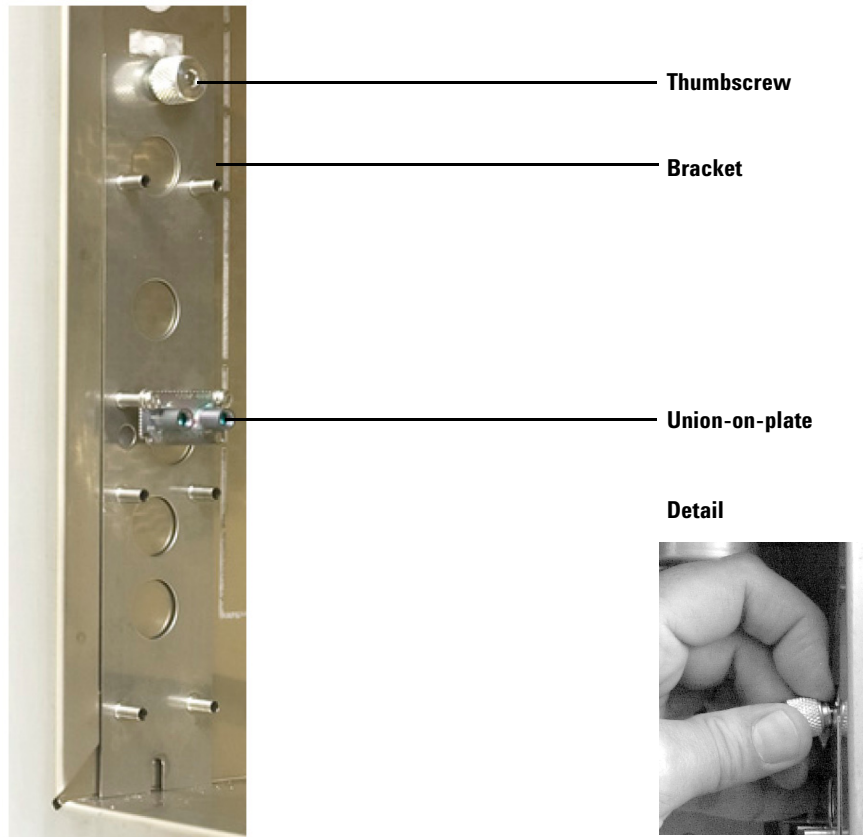

Figure 5 Installing the wall bracket and union-on-plate
- 2 Use the thumbscrew to fasten the bracket to the T-slot in the oven wall (Figure 5). Pull the thumb screw sleeve back to facilitate slipping it into the slot on the oven wall.
- 4 Attach the union-on-plate to the oven wall bracket with 2 screws. The fittings must point towards the column basket as in Figure 5.